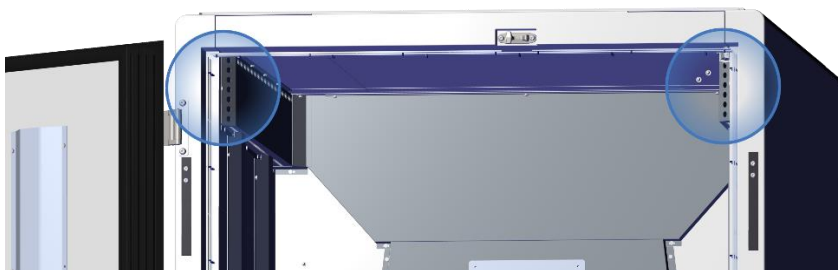

Figure 14 – Location of the air ducts inside the container.
- Check for airflow coming out of the air ducts located on the upper left and right sides, inside the container (Figure 14).